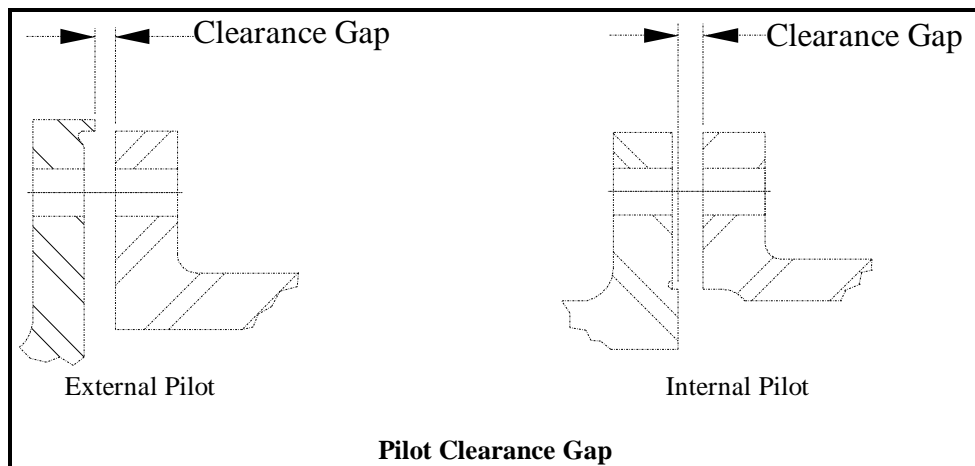

Figure 4-8
- 4.6.2.2. Remove the spacer flange bolts at one end of the spacer. Support the spacer and, using the tapped jacking holes provided, disengage the pilot at that end to obtain a clearance of .005 - .010 IN. (.127 - .254 mm) between the spacer and the splined adapter pilots (see Figure 4-8).